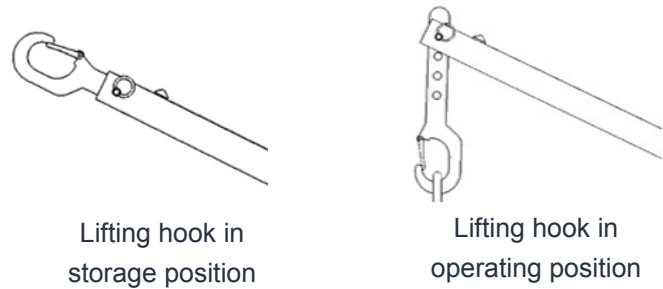

Figure 2
- into the slots and insert the pin through the dolly and one of the middle two holes in the hook. See Figure 2.